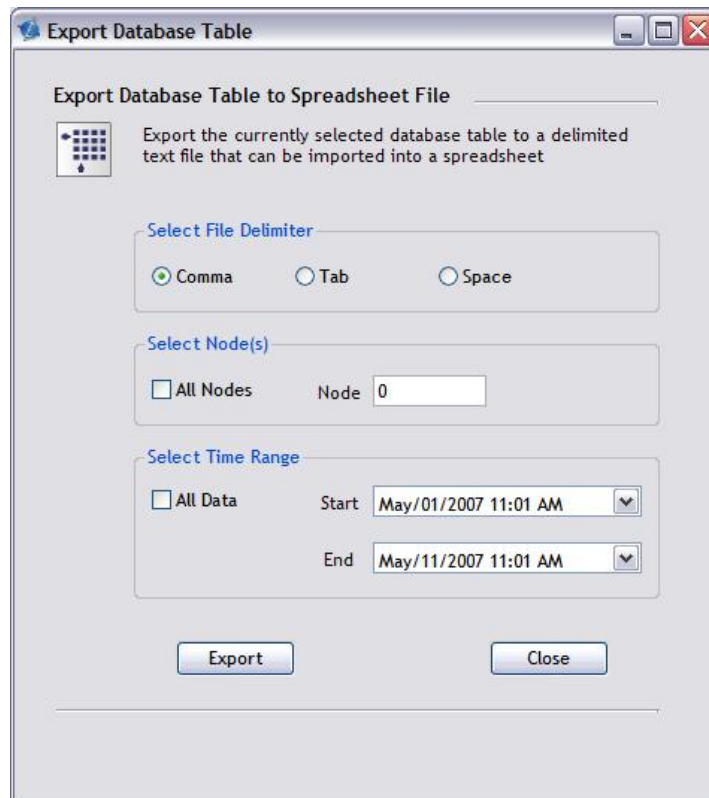

Figure 6-9. Export Database Table Dialog Window
- *Export Table to Spreadsheet* – exports the contents of the current table in the task database to a spreadsheet file (delimited text file). The file delimiter (comma, tab or space), Nodes (all nodes or only a subset of nodes) and Time range (all data or time range) can be specified in the dialog window as shown in Figure 6-9.